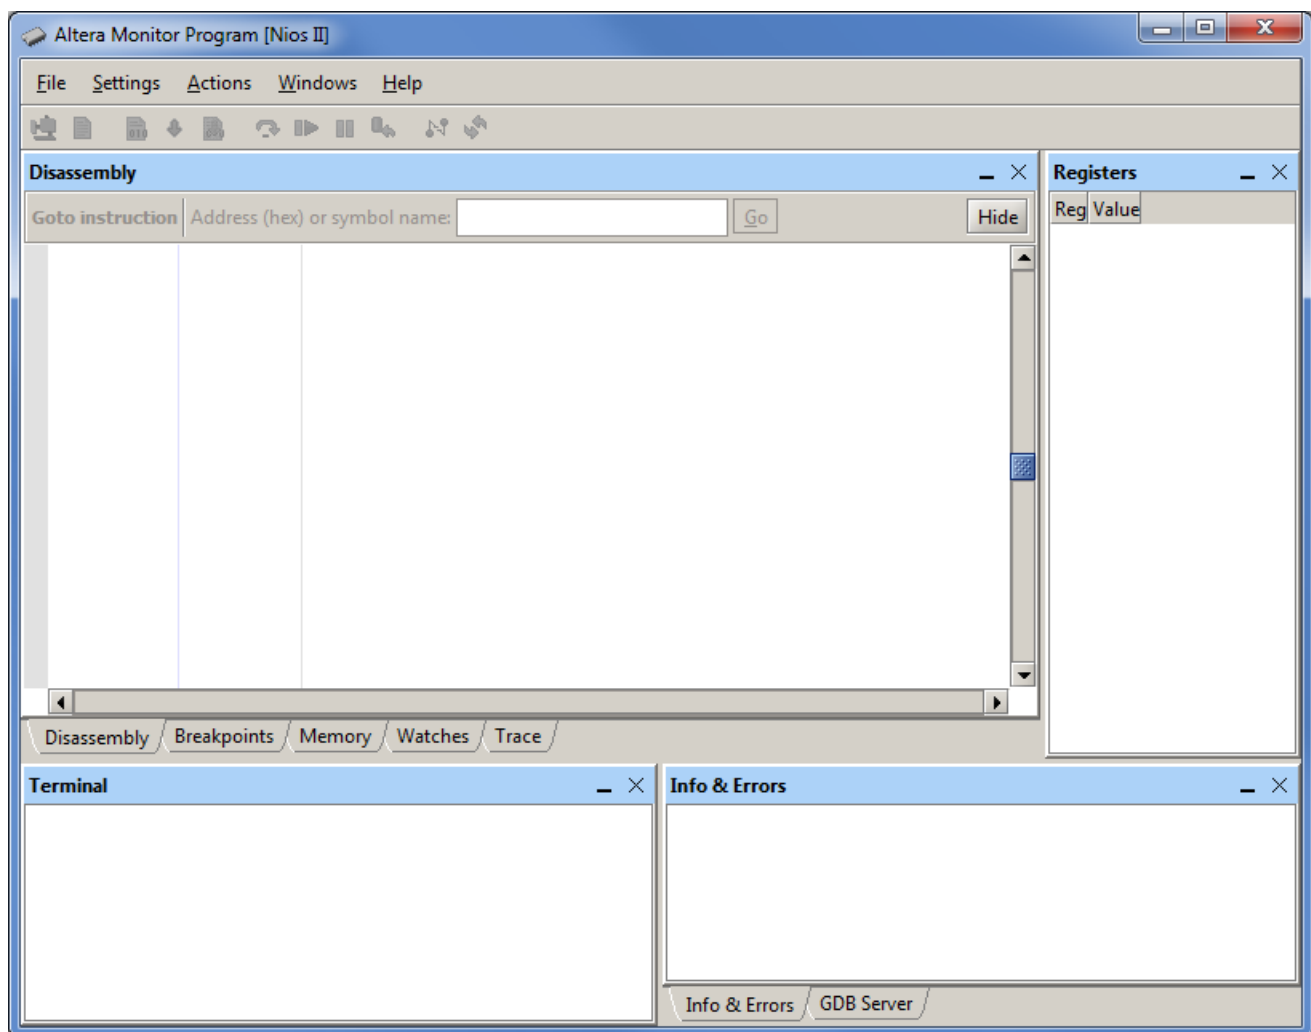

Figure 26. The Altera Monitor Program main window.
Open the Altera Monitor Program, which leads to the window in Figure 26.
8. Now, in the monitor window in Figure 26 select Actions > Compile & Load to assemble (compile in the case of a C program) and download your program.